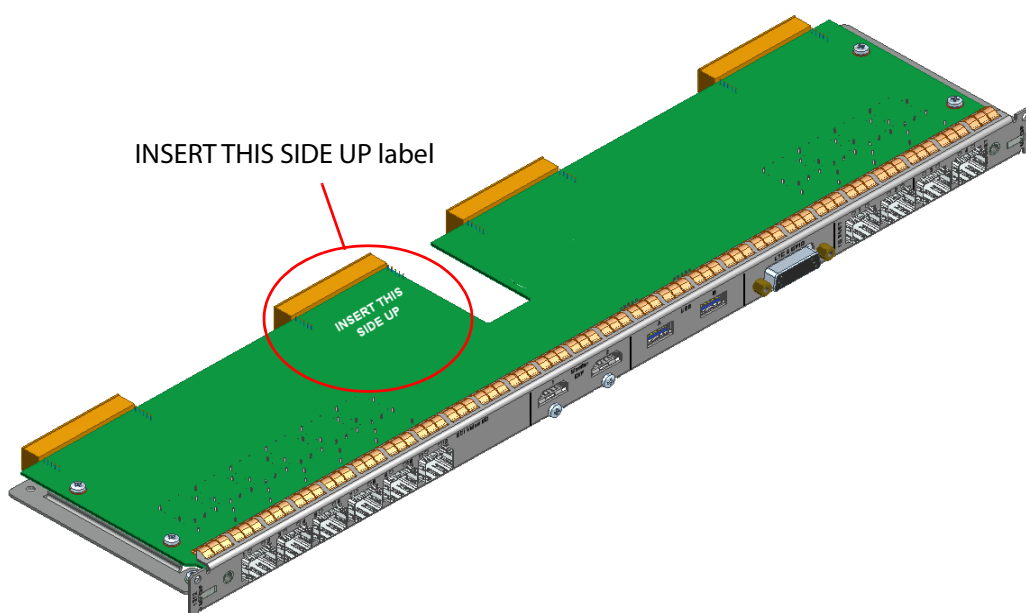

Figure 20 1312 Rear panel module, showing "INSERT THIS SIDE UP" label.
2. **Rear Slot (2):** Insert a 1312 MV-800/MV-801 Rear Panel module into rear Slot (2). Check the orientation of the rear module, see Figure 20.
Ensure the 1312 MV-800/MV-801 Rear Panel module is the correct way up, "INSERT THIS SIDE UP" label is printed on the top of the rear panel, see Figure 20.